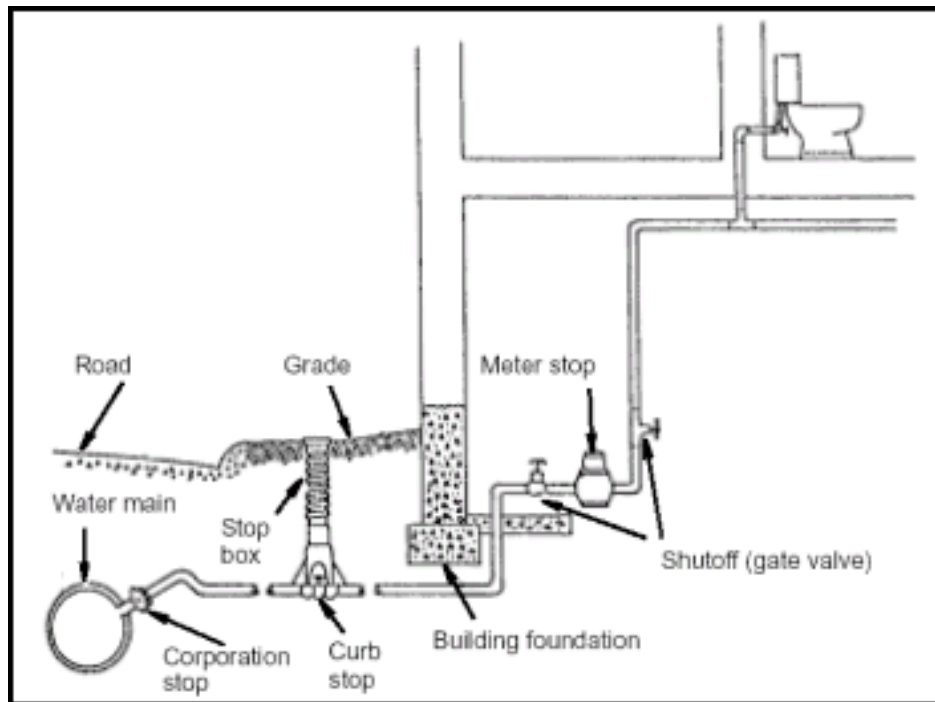

Figure 1-3. Curb and Meter Stops
Step 14. Remove the cap and drill tool. Place a corporation stop (Figure 1-3) in the boring bar, ensuring that the stop is closed.
1-35. Curb and meter stops control the water entering the building. Figure 1-3 shows this installation.